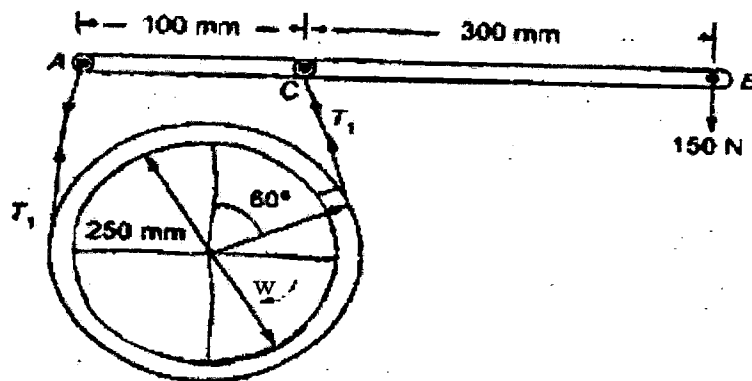

Fig. 15 (b) (ii)
- (b) (i) Find the power transmitted by a belt running over a pulley 700 mm diameter at 300 rpm, $\mu = 0.3$ and angle of lap 160° and maximum tension in the belt is 2.453kN. (6)
- (ii) A simple brake as shown in Fig 15 (b) (ii) is used on a shaft carrying a flywheel of mass 450 Kg. The radius of gyration of the flywheel is 500 mm. and runs at 320 rpm. The coefficient of friction is 0.2 and the diameter of brake drum is 250 mm, Determine the following:
- (1) Torque applied due to a hand load of 150 N (4)
- (2) The number of turns of the wheel before it is brought to rest. (4)
- (3) The time required to bring it to rest from the moment of application of the brake. (2)